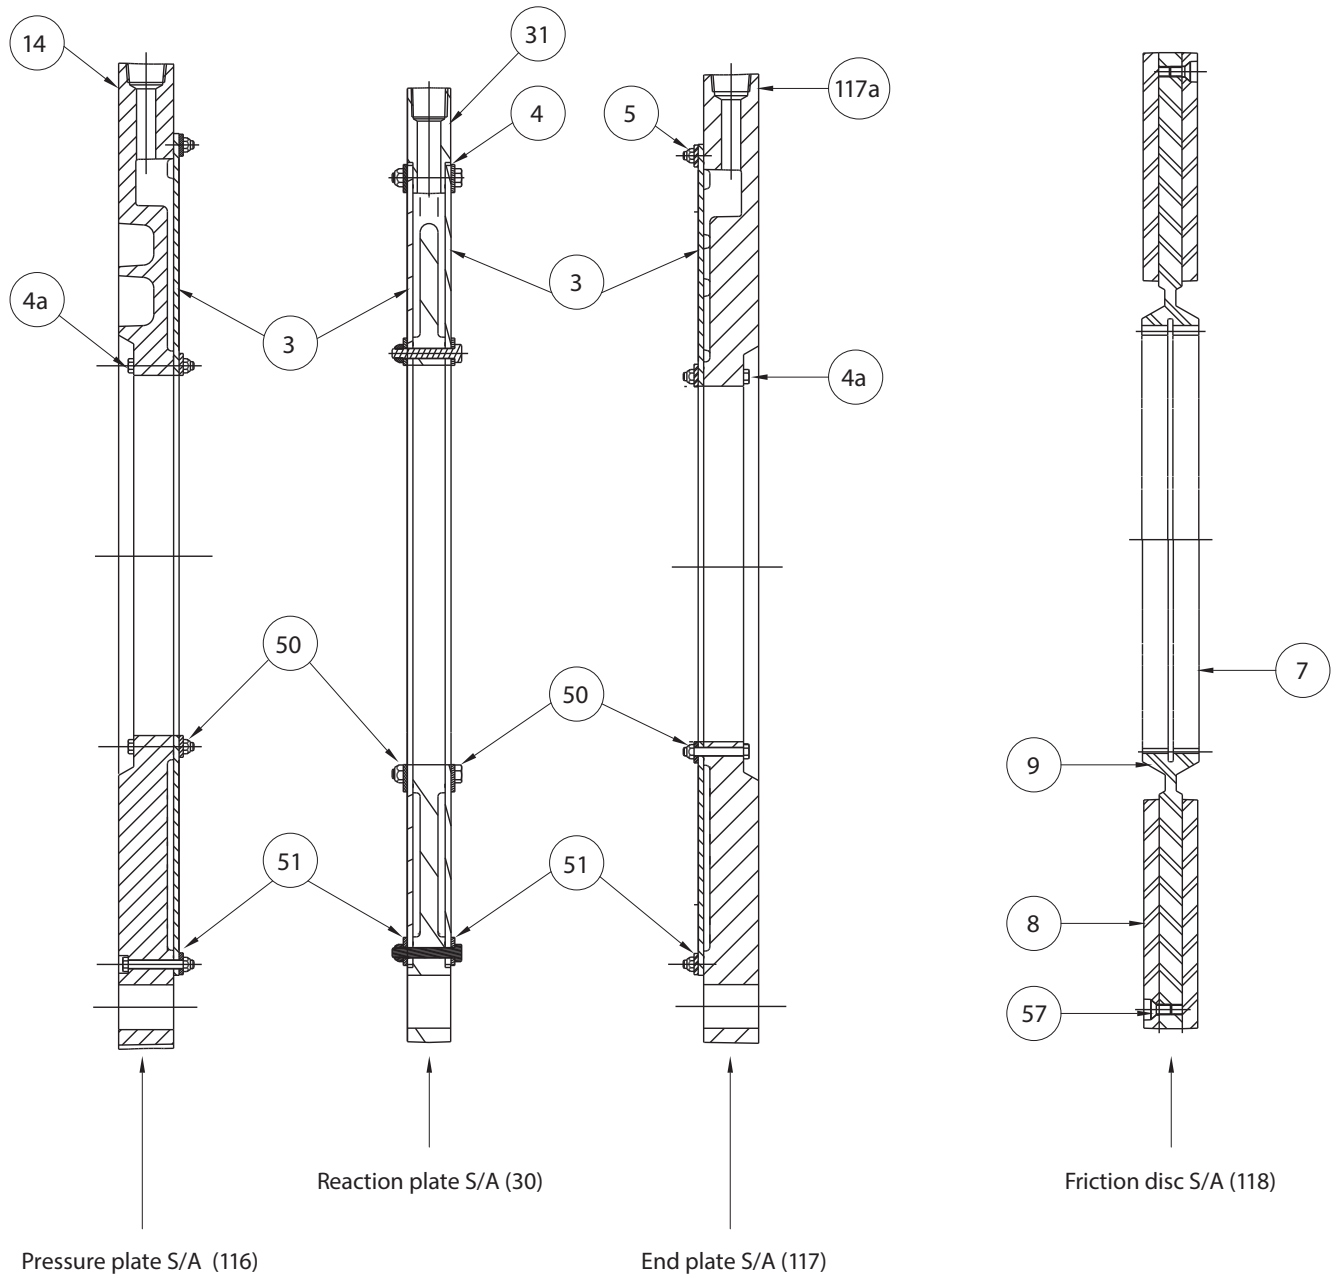

Figure 21
6.4.1 Parts Breakdown of WCSB Reaction Plate Sub-Assemblies (Item 30). Reference:Figure 21.
6.4.2 Parts Breakdown of WCSB Pressure Plate Sub-Assemblies (Item 116). Reference:Figure 21.
6.4.3 Parts Breakdown of WCSB End Plate Sub-Assemblies (Item 117). Reference:Figure 21.
6.4.4 Parts Breakdown of WCSB Friction Disc Sub-Assemblies (Item 7). Reference:Figure 21